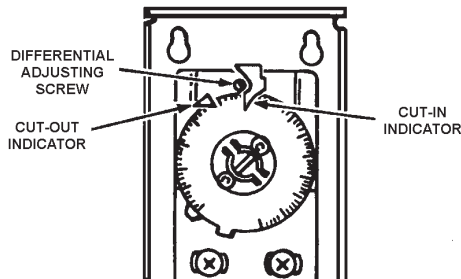

Figure 2. Auto Reset High Limit
The high limit is a safety device wired in series with the ignition system. Set the high limit control to approximately 100°F above the maximum designed system temperature. If the boiler outlet water temperature should exceed the high limit setting, the main gas control valve will close but the circulating pump will continue to operate. Maximum adjustable setting is 115°C (239°F) cut-out with a 30°C (86°F) to 250°C (482°F) adjustable differential, see Figure 2.
1. Reset High Limit Temperature Control to lowest setting. (See Figure 2 on Page 7).